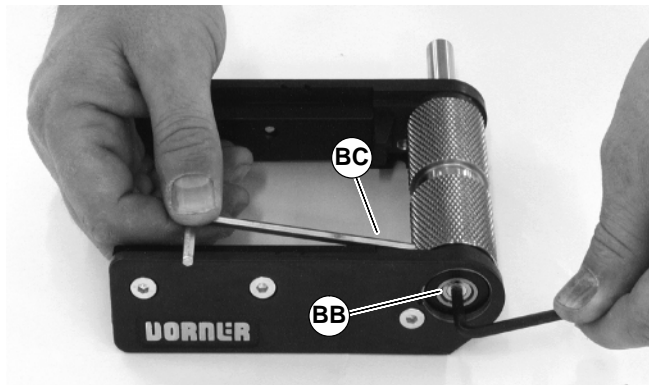

Figure 35
3. On side opposite of drive shaft, loosen pulley taper screw (BB of Figure 35) with 4mm hex-key wrench. Steady pulley with second hex-key wrench (BC) inserted into pulley hole.